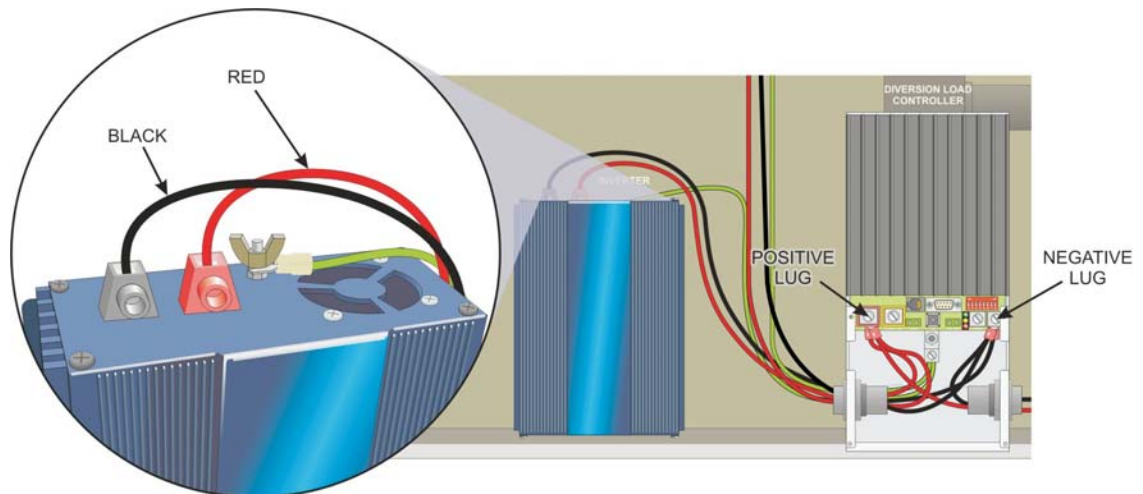

Figure 6-23:
4. Plug in the red and black wires and secure them in the inverter's positive and negative connection terminals, as illustrated in Figure 6-23.